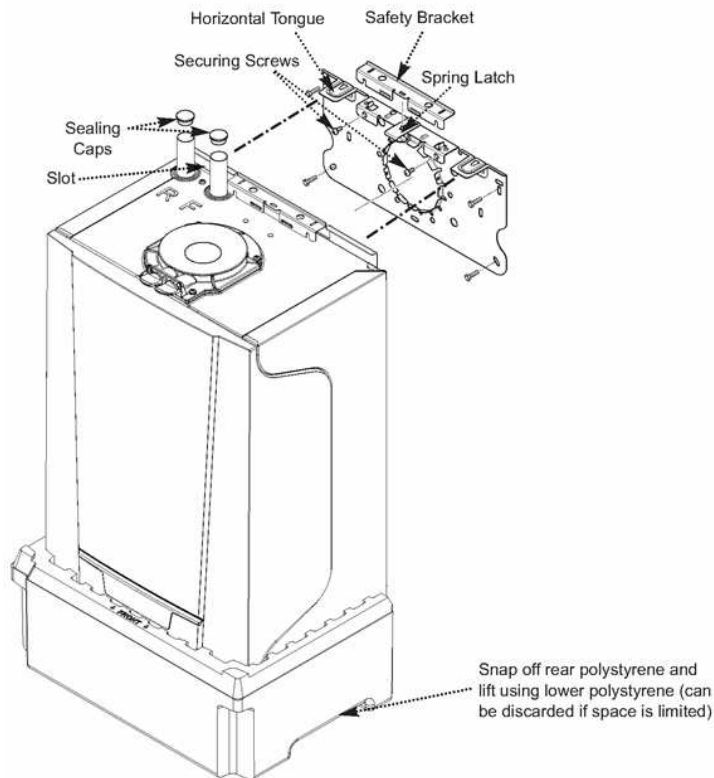

Fig. 38
11. Locate the slots in the safety bracket over the two vertical tongues on the wall bracket and secure with the two screws (Fig. 38). Adjust the jack screw to ensure the boiler is fully vertical and then insert the lower securing screw.